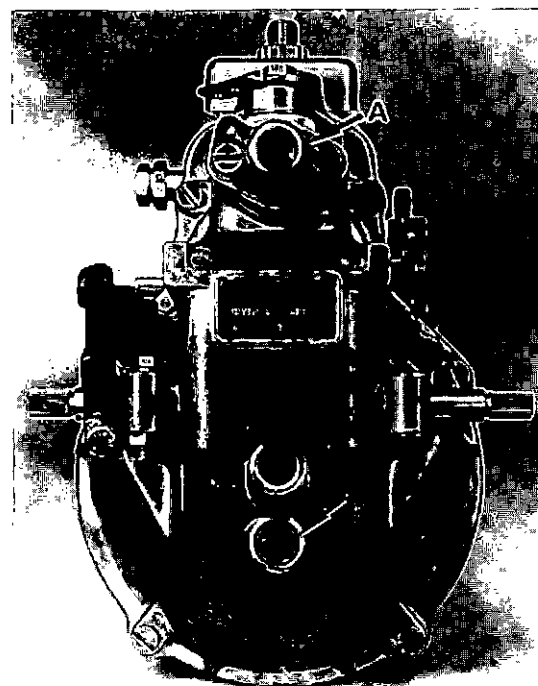

Fig. 44 Rear cover, showing rack access 'A' guide pin 'B'
1. Unscrew the guide pin (fig. 44, Item 'B') from the rear cover. This pin is assembled with sealing compound and its removal requires an adequate and well-fitting screwdriver.